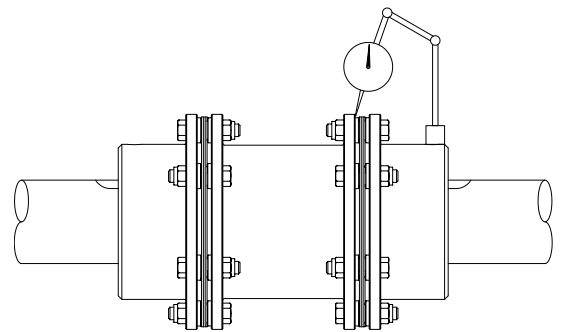

FIGURE 3
3. Attach a dial indicator to each hub. Indicate a point on the nearest spacer flange face as shown. Any method may be used to attach the indicator to the hub, be sure it is firmly attached. See Figure 3.